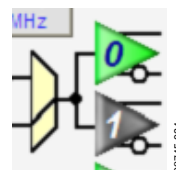
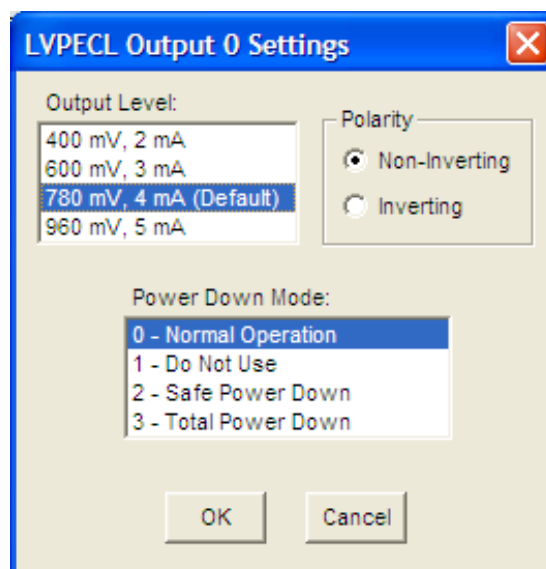

Figure 7. Driver Symbol
Figure 20. LVPECL Output 0 Driver Window
11. Power down unused drivers, click the numbered triangular symbol on the right side of the main window (see Figure 7), select **2 - Safe Power Down**, and click **OK** (see Figure 20).
The **LVPECL Output 0 Settings** window shown in Figure 20 is accessed by clicking the OUT0 through OUT5 output driver symbols on the right side of the main window (see Figure 19).